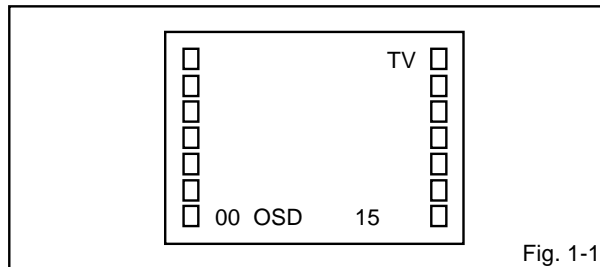

Fig. 1-1
2. Press the VOL. DOWN button on the set and the Channel button (9) on the remote control simultaneously to appear the adjustment mode on the screen as shown in Fig. 1-1.
7. Activate the adjustment mode display of Fig. 1-1 and press the channel button (03) on the remote control to select "VIF VCO".
3. Activate the adjustment mode display of **Fig. 1-1** and press the channel button (**02**) on the remote control to select "RF DELAY".
5. Activate the adjustment mode display of **Fig. 1-1** and press the channel button (**01**) on the remote control to select "CUT OFF".
4. Activate the adjustment mode display of **Fig. 1-1** and press the channel button (**10**) on the remote control to select "R.BIAS".
3. Activate the adjustment mode display of **Fig. 1-1** and press the channel button (**05**) on the remote control to select "H PHASE".
3. Activate the adjustment mode display of **Fig. 1-1** and press the channel button (**07**) on the remote control to select "V SHIFT".
3. Activate the adjustment mode display of **Fig. 1-1** and press the channel button (**06**) on the remote control to select "V SIZE".
3. Activate the adjustment mode display of **Fig. 1-1** and press the channel button (**13**) on the remote control to select "BRIGHTNESS".